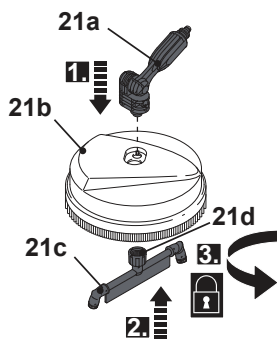

Fig. 26
- > Align the angle connector (21a) to the holes on the housing (21b) and insert the angle connector into the housing. (Fig. 26, step 1)